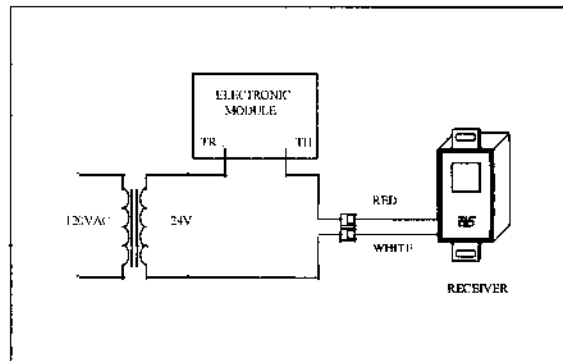

Fig.2
2. Wiring direct spark ignition systems (Fig. 2)
In case of a 24 volt direct spark ignition system , wire as shown in Fig. 2.